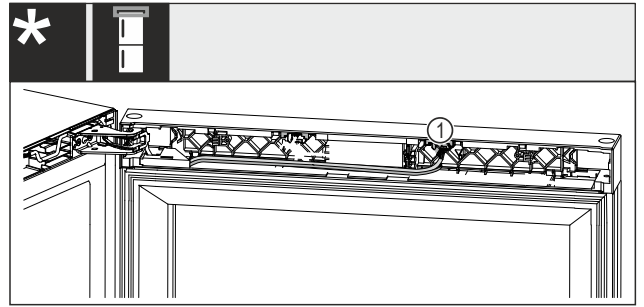

Fig. 25 Wine-freezer combinations\*
- ▶ Pull the plug Fig. 25 (1) out of the retaining clip.\*